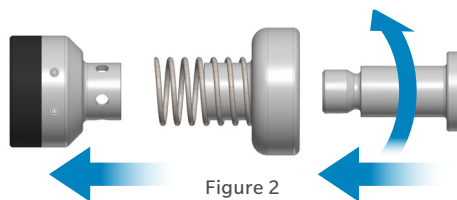

Figure 2
1. Assemble the Humerus Protector (8) with the Pre-load Spring (7), the guide (6) and the impactor (5) by screwing together to humerus protector (8) and the impactor screw (5) as shown on Figure 2.